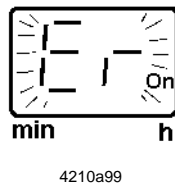

Fig. 23 Display of a low-level control
- When the reservoir is nearly empty the pump display shows "Er" (see Fig 23).